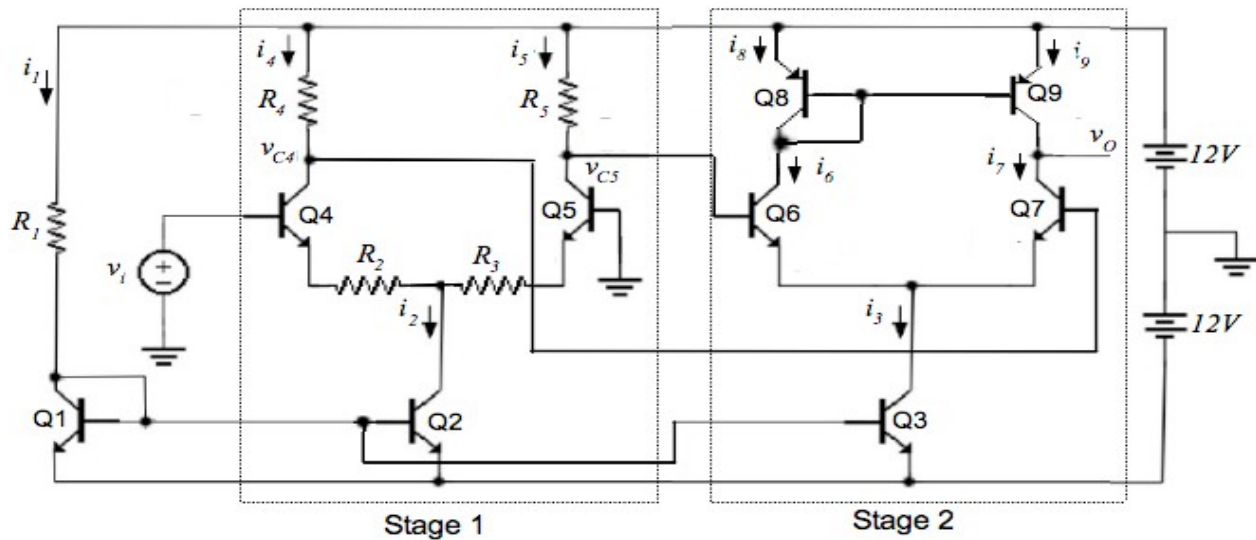

Fig. 1 Two-Stage BJT Differential Amplifier Schematic
Consider the two-stage BJT differential-input, single-ended-output amplifier in Fig. 1 regarding the exercises that follow. Please use appropriate approximations throughout the exam.
In Fig. 1 voltage source  $v_i$  is the ac input signal,  $v_o$  be the large-signal output voltage (ac + dc), voltages  $v_{C4}$ ,  $v_{C5}$  are large-signal collector voltages (ac + dc) for transistors Q4, Q5 and each current  $i_1$  through  $i_9$  are large signal currents (ac + dc). The BJTs: for convenience in this exam let the parameters for all transistors (NPN and PNP) be  $\beta = \text{large}$ ,  $V_A = 100 \text{ V}$  and  $V_{BEn} = V_{EBp} = 0.7 \text{ V}$ .
1. For this two-stage amplifier to achieve its expected performance certain components are required to match, i.e. to be equal in value (also identical on-chip geometry and fabrication steps). Please state specifically the components in Fig. 1 that are absolutely required to be matched, and give specific reasons for your selections. It may be convenient to match more components than are absolutely required. Please only name the matches that are absolutely required. Refer to components by their numbered labels in Fig. 1. (10 pts)